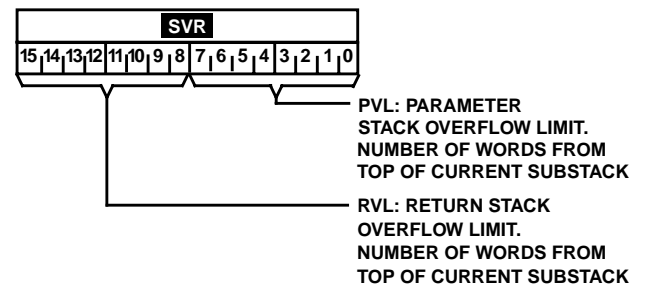

FIGURE 16. **SVR** BIT ASSIGNMENTS
**SVR**: The Stack Overflow Limit Register is a write-only register which holds the overflow limit values (0 to 255) for the Parameter Stack (bits 0-7) and the Return Stack (bits 8-15). These values must be written together. See Figure 16.